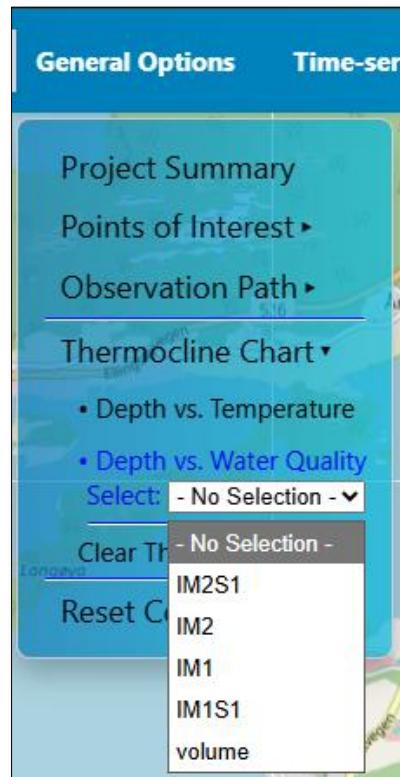

Figure 4.9. Thermocline Chart option for WAQ simulation
- *Step 1:* Select the option “**Depth vs. Temperature**” or “**Depth vs. Water Quality**”. If the user clicks on the option “**Depth vs. Water Quality**”, a small area appears that allows the user to select which option in the WAQ simulation to draw a thermocline chart (**Figure 4.9**).